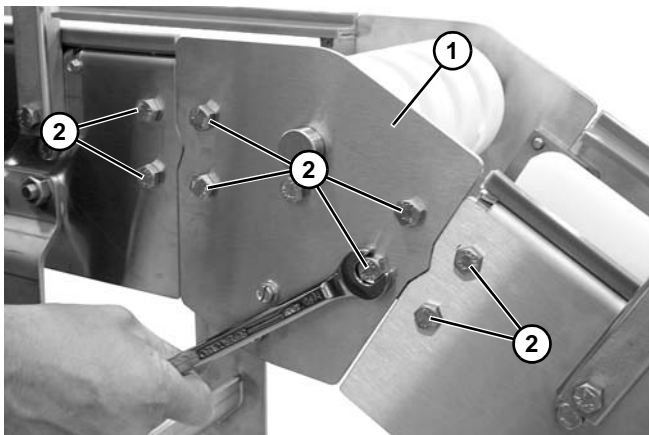
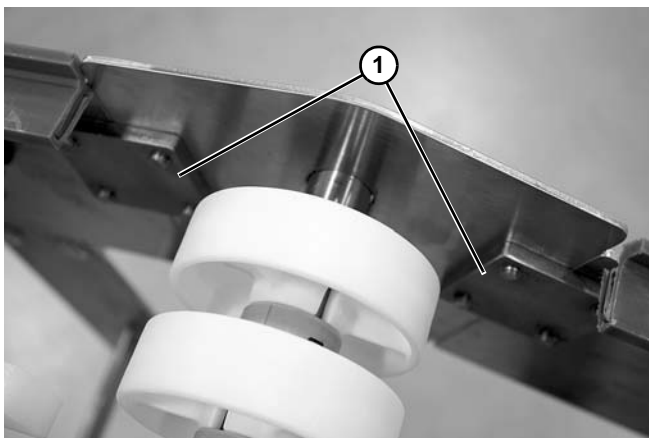

Figure 6
Figure 7
1. Attach upper knuckle (**Figure 6, item 1**) to frame using four screws (**Figure 6, item 2**) and two plates (**Figure 7, item 1**) on each side of the upper knuckle assembly.